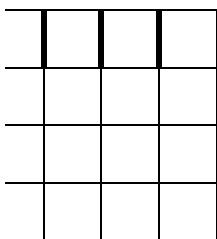

Fig. 1
**8.8.4.** (Figure 1) Spread the adhesive and allow the proper set up time. Begin laying the tile along the working line that was established in step 8.8.2. Insert one of the precut divider strips between each tile. Install the field tiles first, and the border tiles later. Use a hand roller as you lay each strip, to be sure the strip makes full contact with the adhesive.